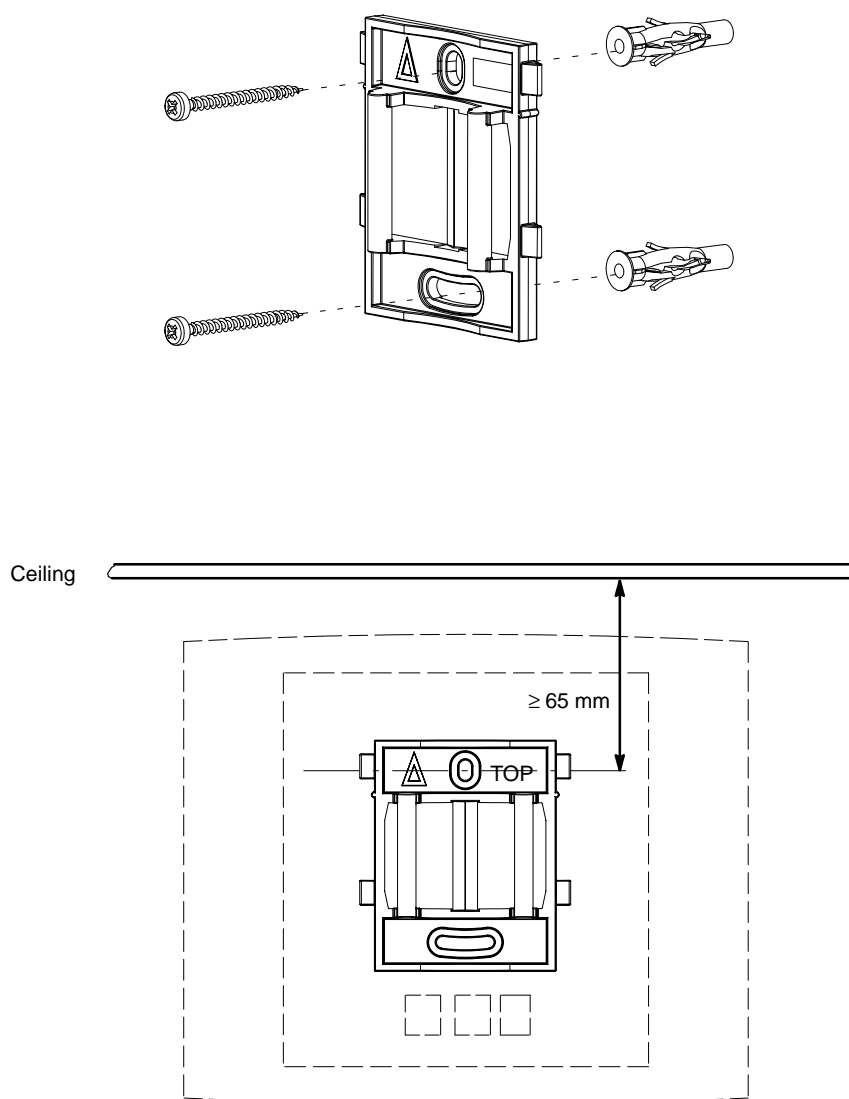

Fig. 37 Fixing the mounting bracket to a wall
Fix the mounting bracket (see figure 37) to the wall as follows:
1. Hold the mounting bracket with its flat side against the wall such that the text 'TOP' is the right way up, and mark the two holes. The minimum distance between the upper hole and the ceiling or any object above the base station must be at least 65 mm (see figure 37). If the distance is less than 65 mm, the base station cannot be slid onto the bracket.